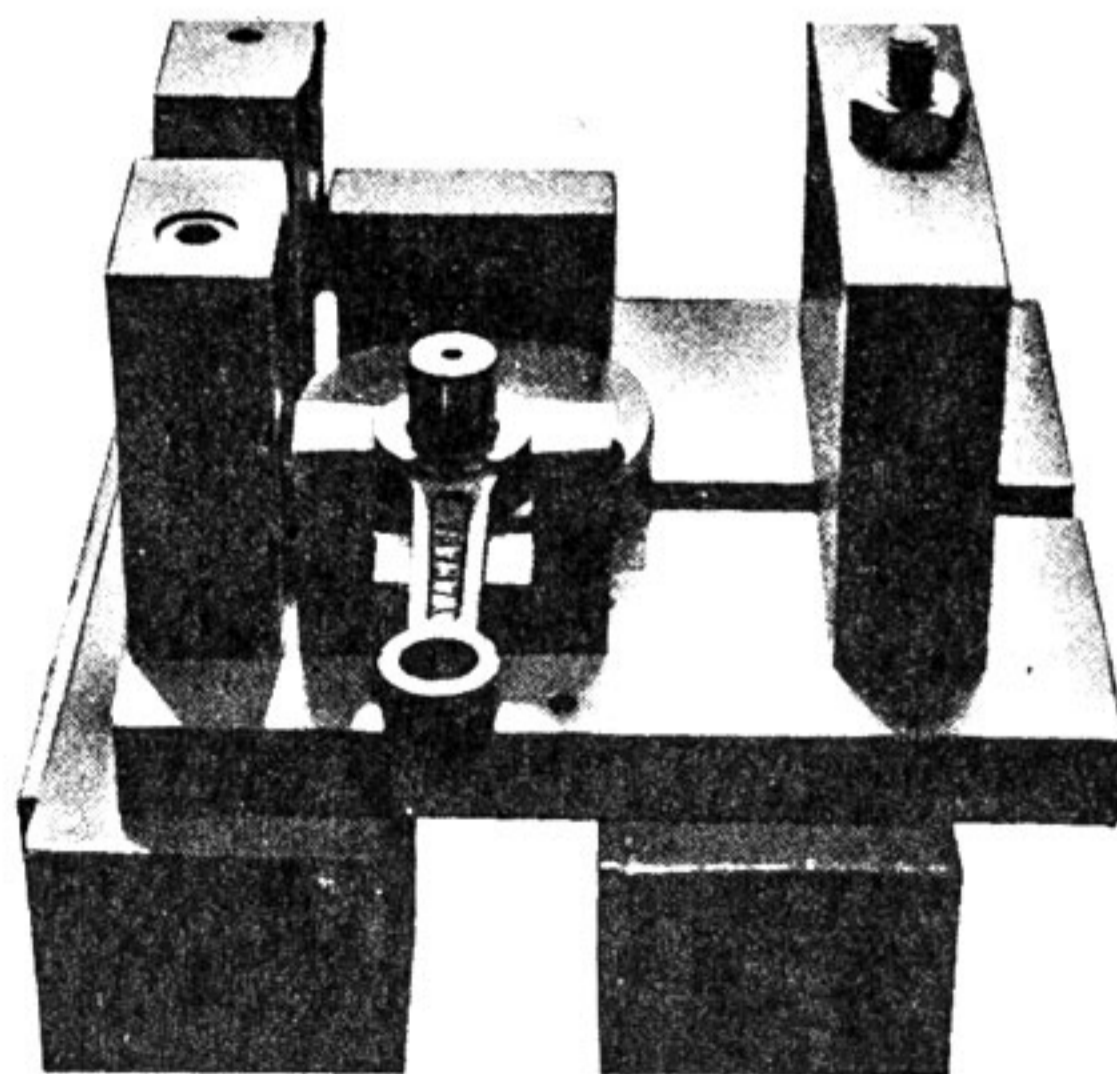

Fig. 4-17-13
- (2) Press the crank pin into one crank wheel, and position the crank wheel in Tool No.1. Then install the connecting rod on the shaft. (Fig. 4-17-13)